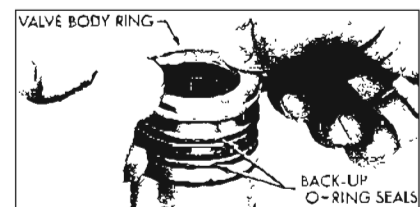

Figure 8-43—Installing Valve Body Rings
1. If removed from valve body, lubricate three new ring back-up "O" ring seals in automatic transmission oil and assemble in the three ring grooves on the valve body. Assemble three new valve body rings in the ring grooves over the "O" ring seals by carefully slipping over the valve body. See Figure 8-43.